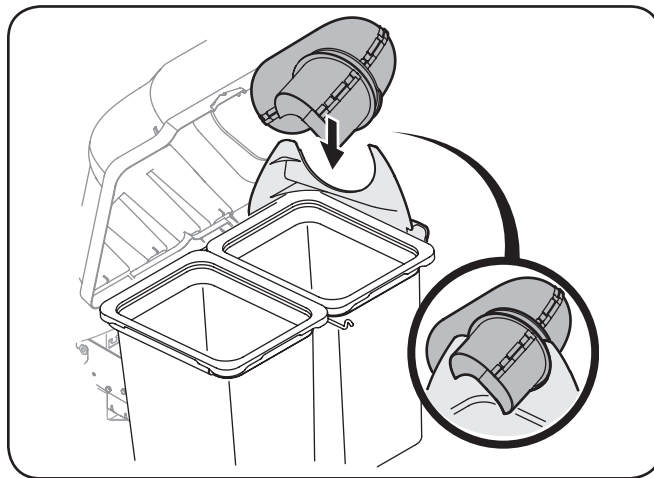

Figure 4-25
15. With the bagger cover open, install the upper chute over the chute adapter, and rest the top so that the chute support sits in the upper chute groove. See Figure 4-25.